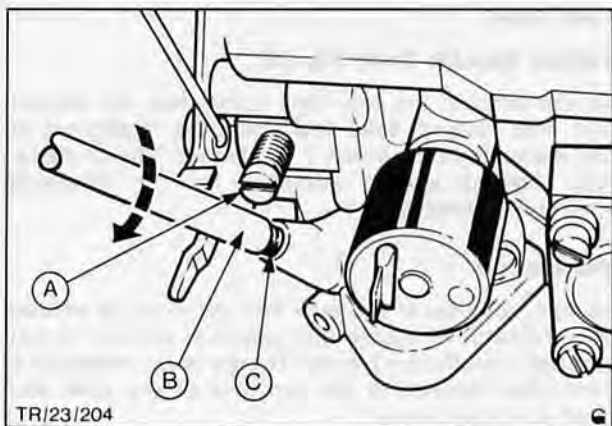

Fig. 14. Plug removal
8. Using remover, Fig 20, detach tamperproof plug as follows, Fig. 14.